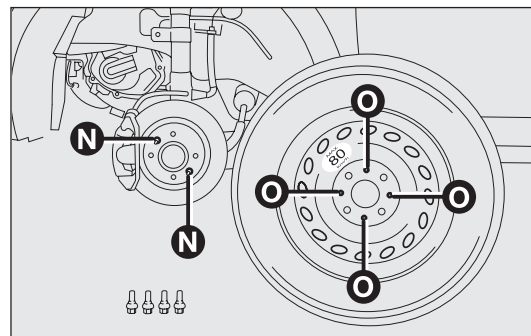

fig. 126
- ❑ fit the space-saver wheel, ensuring that the pin N-fig. 126 is aligned with one of the wheel holes O;